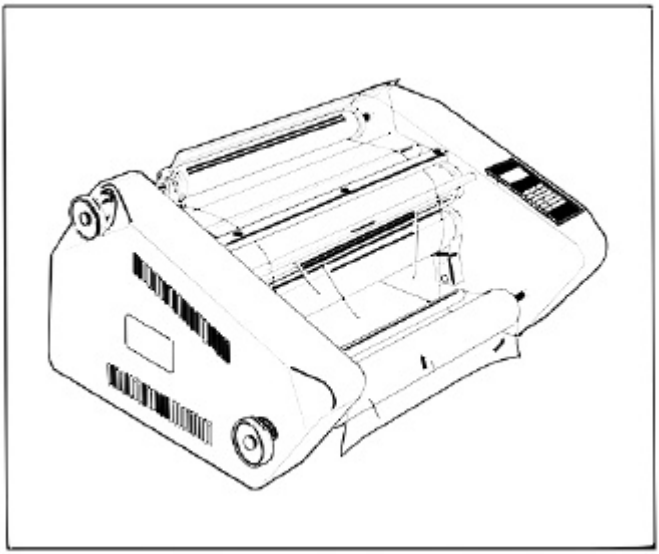

Fig. 14
13. Unroll 2 ft. (61 cm) of film. Drape the film over the top idler bar and completely cover both heat rollers, (Figure 14).